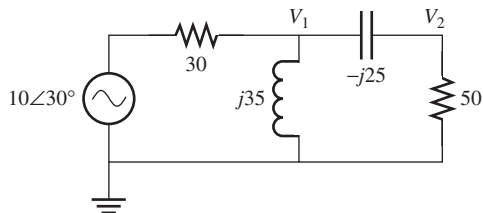

FIGURE P6.34 Circuit for Problem 6.34.
6.34 (A) Find V_1 and V_2 in Figure P6.34 using nodal analysis.